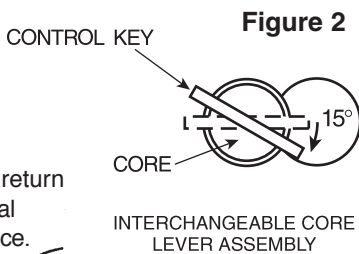

Figure 2
B. Insert key marked CONTROL and turn clockwise approximately 15 degrees. See Figure 2.